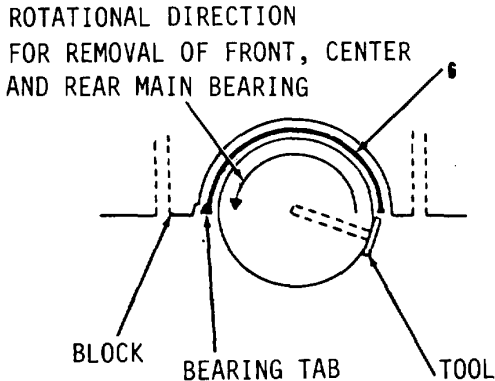

Figure 13-18.
- 10. Install tool in oil hole of crankshaft journal where upper main bearings (6, Figure 13-18) are to be removed.